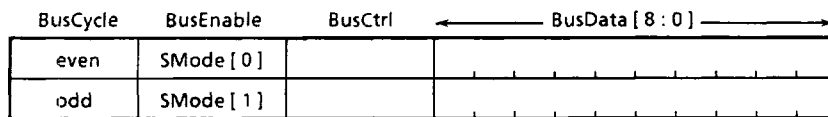

Figure 5. Serial Mode Packet Format
- (3) Data Packet The data packet is a group of contiguous write or read data for memory or register address space. The data packet consists of between 1OB (8byte) and 32OB (256bytes). (It is always 1OB when reading or writing to registers.)
- (4) Serial Mode Packet The serial mode packet (SMode [1 : 0]) controls the state of the Count00 [3 : 0] and Count11 [7 : 0] counters. These counters cause operating mode transitions when they reach special values. Figure 5 shows the format of the serial mode packet.